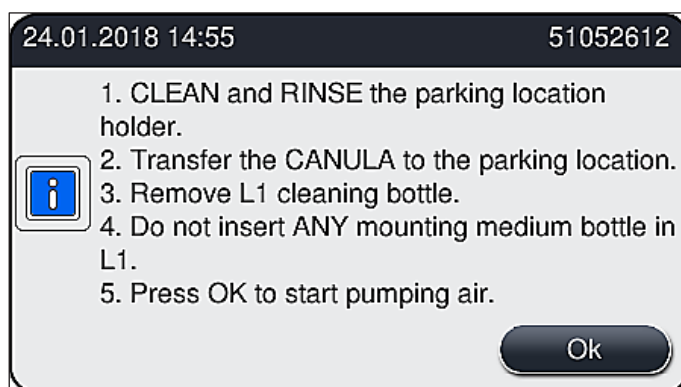

Fig. 105
4. Take note of the next information message (→ Fig. 105), which contains instructions, and acknowledge with the **Ok** button.